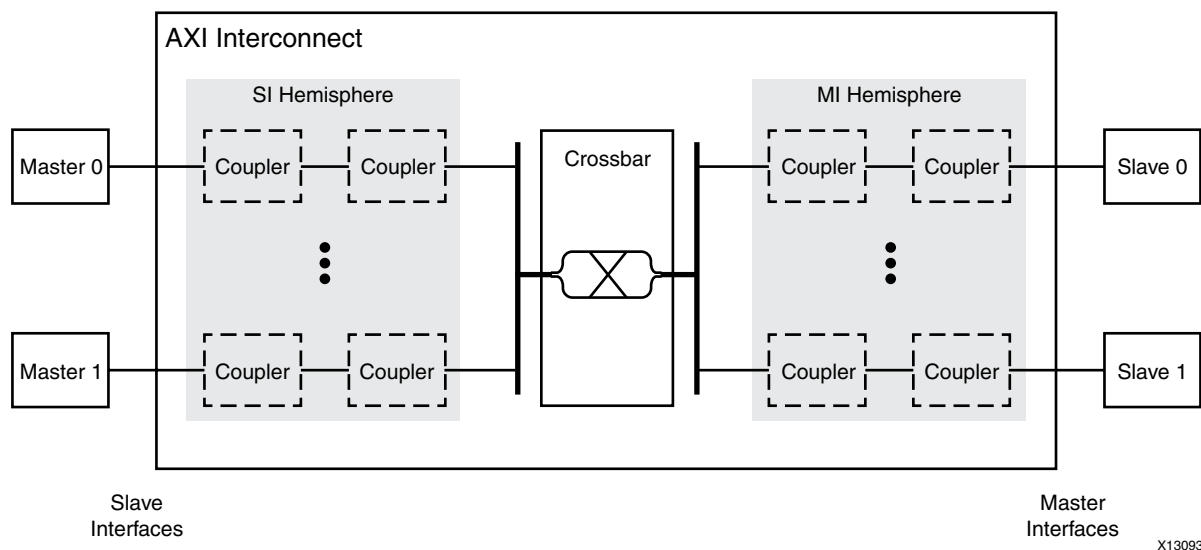

Figure 2-1: AXI Interconnect Core Diagram
Figure 2-1 shows the top-most AXI Interconnect core block diagram. Inside the AXI Interconnect, a Crossbar core routes traffic between the Slave Interfaces (SI) and Master Interfaces (MI). Along each pathway connecting a SI or MI to the Crossbar, an optional series of AXI Infrastructure cores (couplers) can perform various conversion and buffering functions. The couplers include: Register Slice, Data FIFO, Clock Converter, Data Width Converter and Protocol Converter.